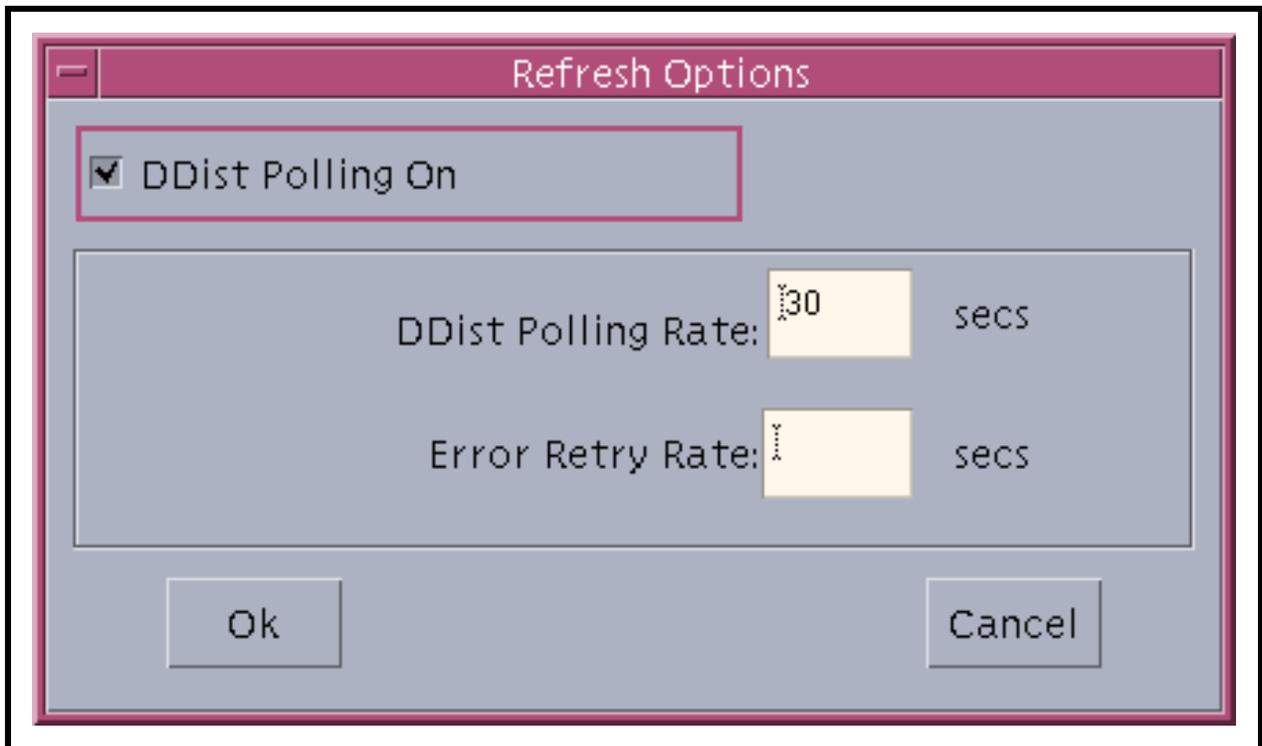

Figure 7. Refresh Options Dialog Box
- The **Refresh Options** dialog box (Figure 7) is displayed.